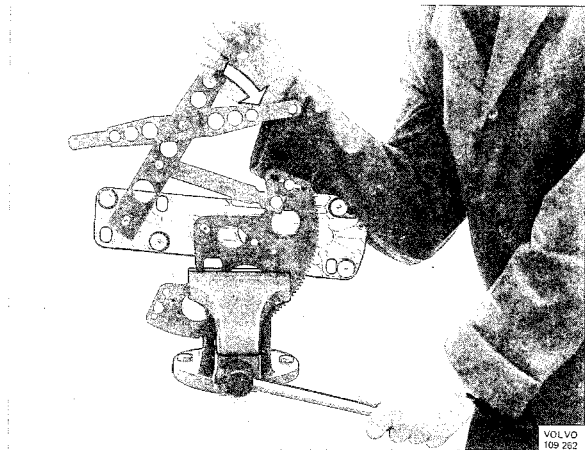

Fig. 8-26. Tensioning window winder spring
- (12.) Tension the spring on the new window winder to the bottom, Fig. 8-26, and place the winder in the vise.